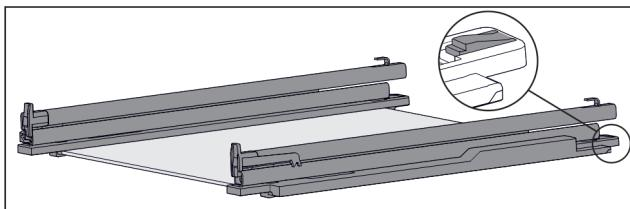

Fig. 123 Glass shelf with rails and retaining parts
- Press down retaining part at the rear (see Fig. 123) and simultaneously push rail back.